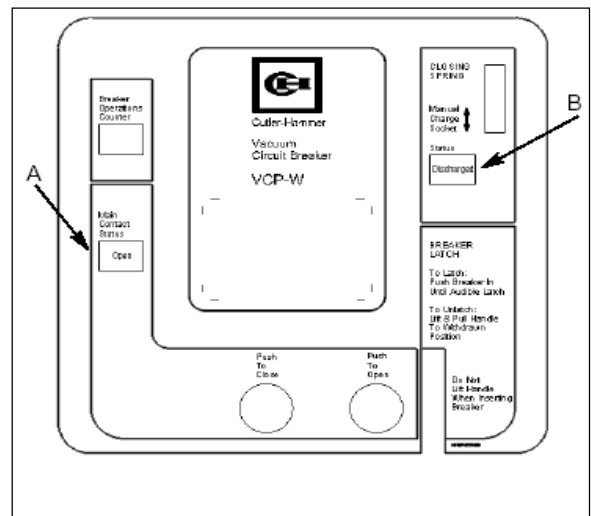

Figure 6-5 Status Indicators (“A” shows the contact Status indication and “B” and spring indication) (Some breakers will not have the escutcheon that is shown).
Step 1 - On the front cover identify the status indicators. **MAKE SURE THE CLOSING SPRING STATUS INDICATES “Discharged” AND THE MAIN CONTACT INDICATOR SHOWS “Open”** (Figure 6-5).